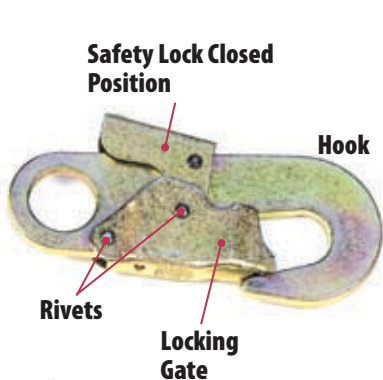

Fig.3
- a) Push down on the safety lock as shown at **Fig.3** and release. The safety should spring back to the closed position.